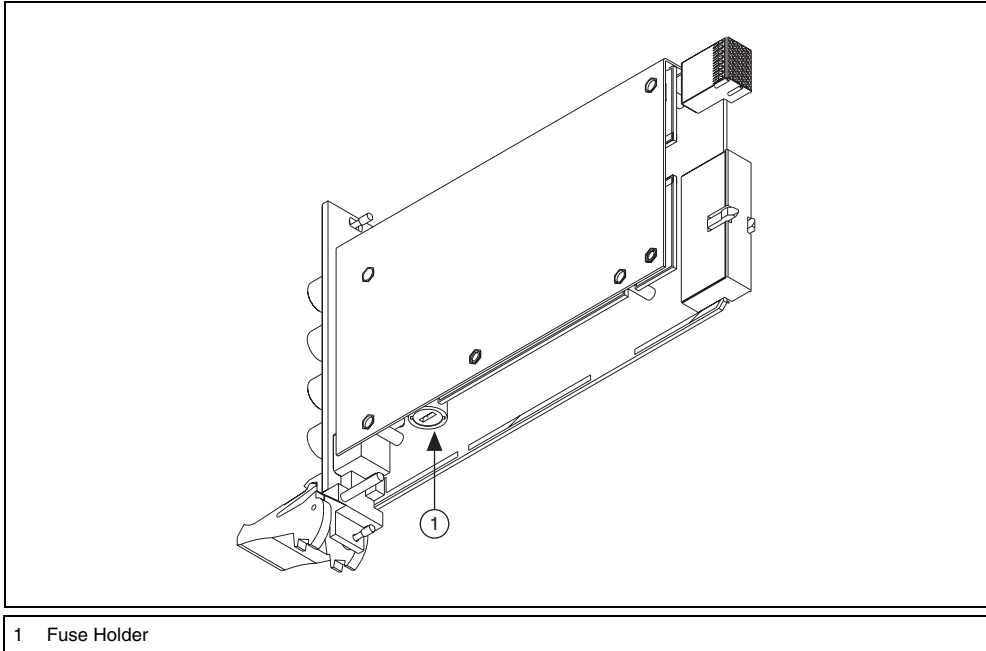

Figure 25. Locating the Fuse on the NI PXI-4065
- **(NI PXI-4065)** View the device at the angle shown in Figure 25.